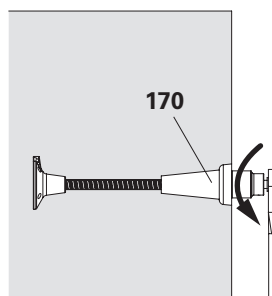

Fig. A3.29
1. Unscrew the Climbing Cone-2 M30/DW 20 (170) with a ratchet wrench and socket AF 46.
- (Fig. A3.29)